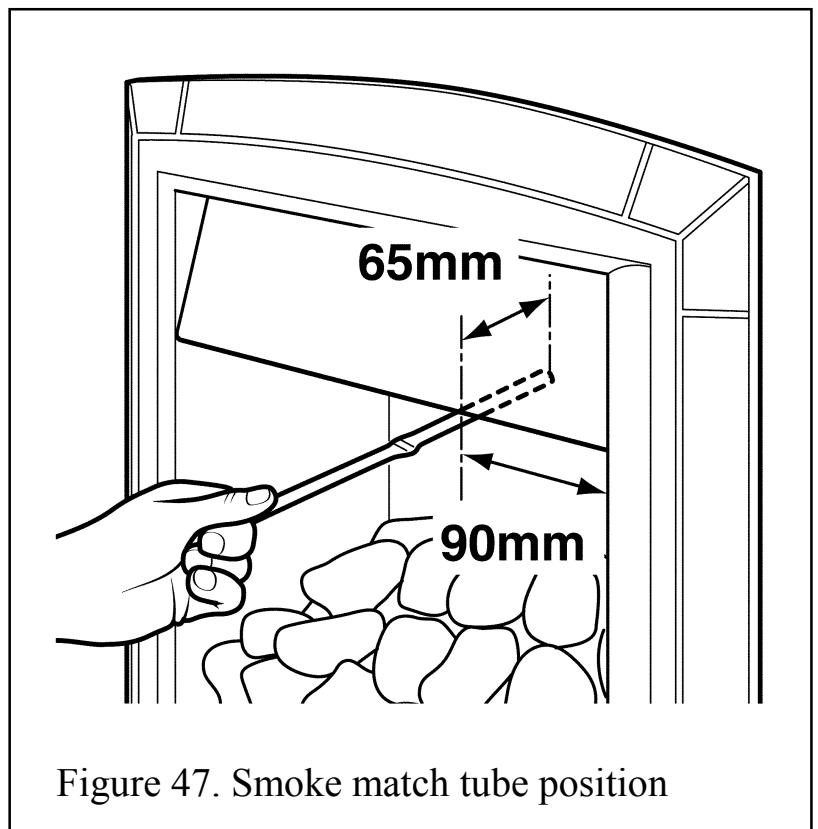

Figure 47. Smoke match tube position
4. The smoke match should be placed horizontally into the hotbox at the right hand side. (See figure 47).